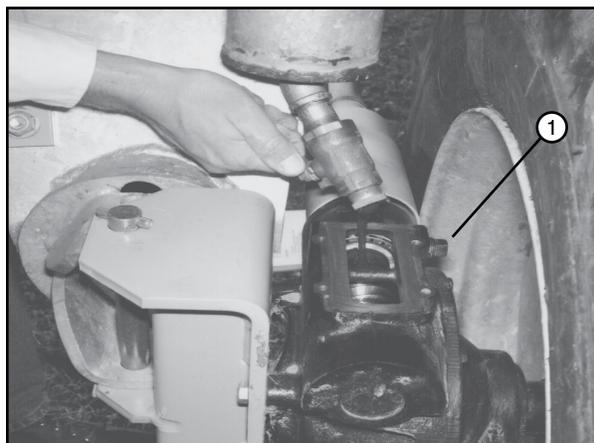

Figure 40-3 1. Check Plug
- Fill gearbox to the top of worm gear shaft or remove the check plug and fill until the oil begins to flow out of the check plug hole. See figure 40-3.